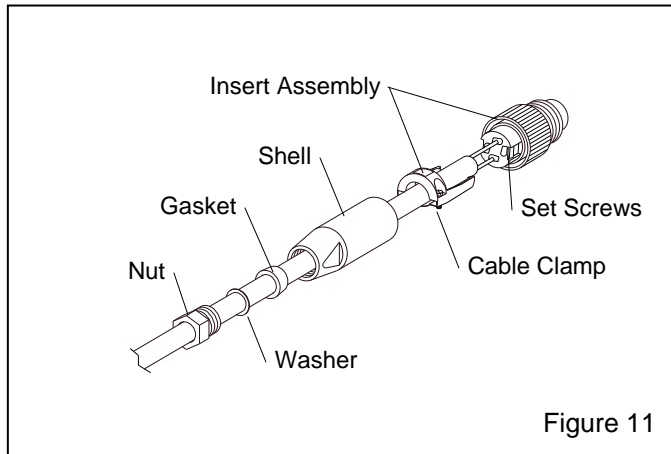

Figure 11
6.6.4.3 Remove the compression nut, thrust washer and gasket from the connector shell per Figure 11.